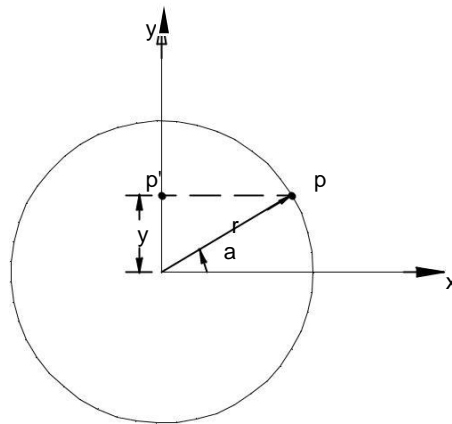

Fig.6.11
**(d) Simple Harmonic Motion:** In fig.6.11, the motion executed by point  $P^1$ , which is the projection of point P on the vertical diameter is called simple harmonic motion. Here, P moves with uniform angular velocity  $\omega_p$ , along a circle of radius r ( $r = s/2$ ).